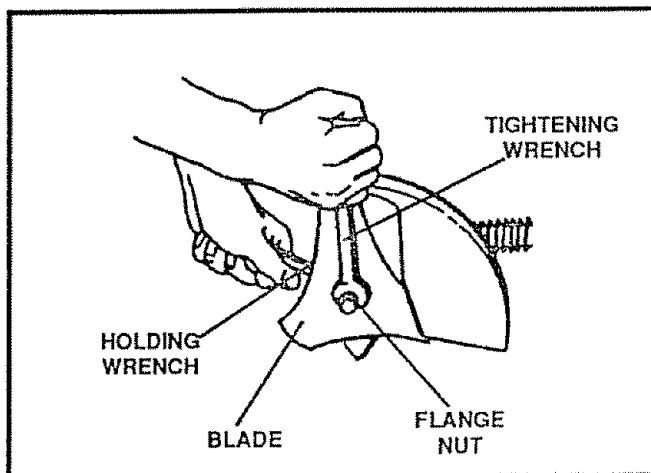

FIG. 12
CAUTION: WHEN REMOVING OR TIGHTENING THE BLADE NUT, ALWAYS USE THE METHOD SHOWN IN FIGURE 12. THE HOLDING WRENCH MUST ALWAYS BE POSITIONED BEHIND THE CUTTING BLADE. NEVER USE THE LOCKNUT ON THE PULLEY END, DAMAGE TO THE SHAFT OR BEARINGS COULD RESULT.
- Remove the flange nut (See Fig. 12) securing the blade to the drive shaft.